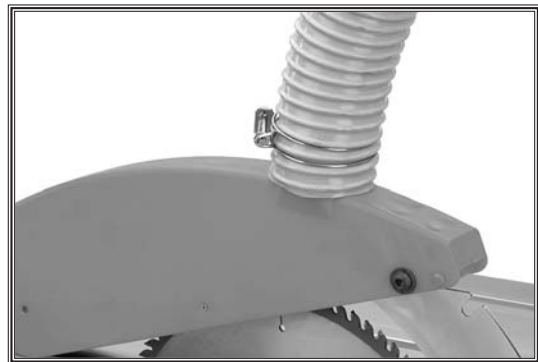

Figure 43. 2½" Dust port connected.
2. Attach a 2½" dust hose to the blade guard dust port, as shown in Figure 43.